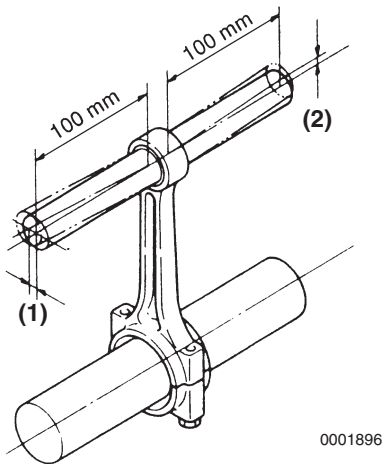
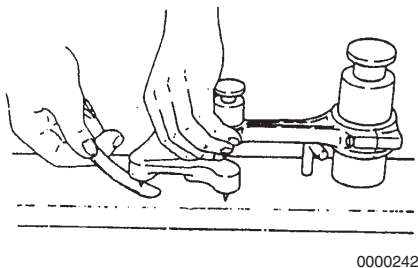

Figure 6-70
Figure 6-71
2. Measure the connecting rod twist (Figure 6-70, (1)) and bend (Figure 6-70, (2)) using a connecting rod alignment tool (Figure 6-71). Record the measurements. See Connecting Rod on page 6-12 for specifications.